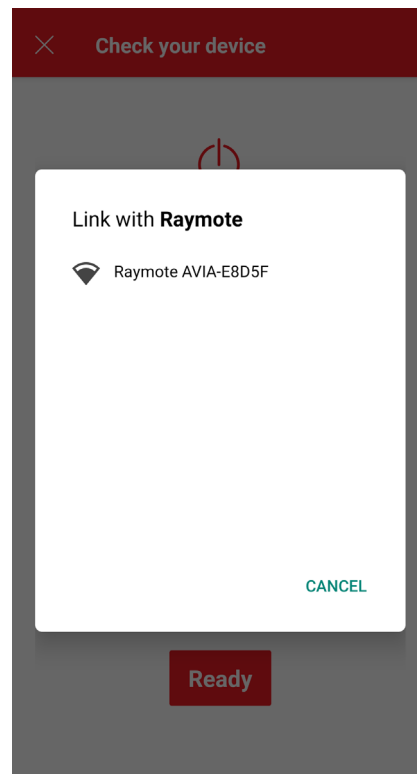

Figure 83. Link with Raymote
- Depending on your configuration, one or more devices will appear on the app. See **Figure 83**. Select the HOTSPOT identifier that matches the unit's display as shown in **Figure 83**.